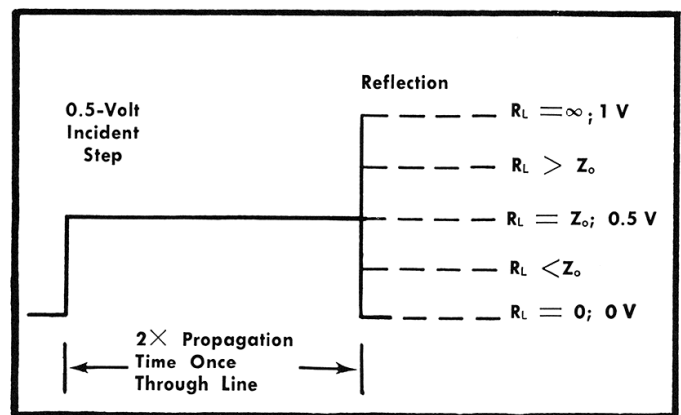

Fig. 2-25. TDR oscilloscope voltmeter displays for circuit of Fig. 2-24, dependent upon value of R_L vs Z_o .
Fig. 2-25 shows TDR oscilloscope (voltmeter) displays related to the value of R_L vs the value of the transmission line Z_o . For values of R_L not equal to Z_o , use formula (3) to compute the reflection voltage. The final display voltage is the reflection voltage algebraically added to the incident step voltage.
a ratio between the incident and reflected signals which is called the reflected coefficient, rho (ρ). The value of ρ is simply the reflected pulse amplitude (the display total amplitude minus the incident pulse amplitude) is divided by the incident pulse amplitude. Fig. 2-25 shows the two parts of the display, the incident step and the reflected signal. When $\rho = 0$, the transmission line is terminated in a resistance equal to its characteristic impedance Z_o . If the line is terminated in $R_L > Z_o$, then ρ is positive. If the line is terminated in $R_L < Z_o$, the ρ is negative. The dependence of ρ on the transmission line load is